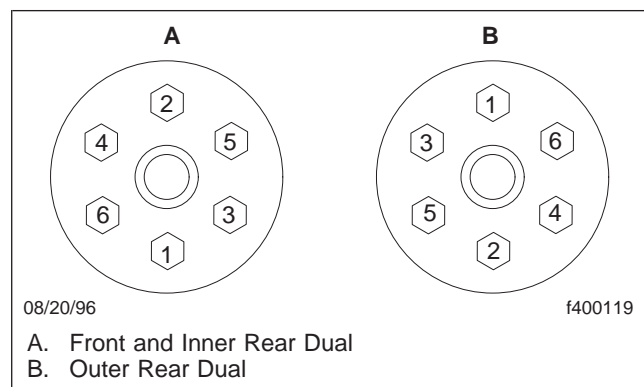
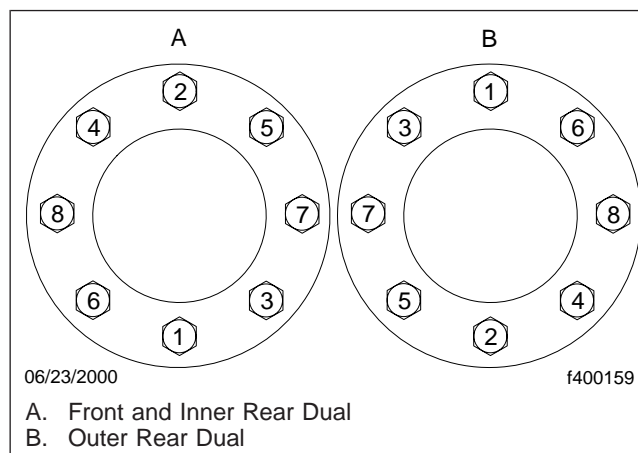
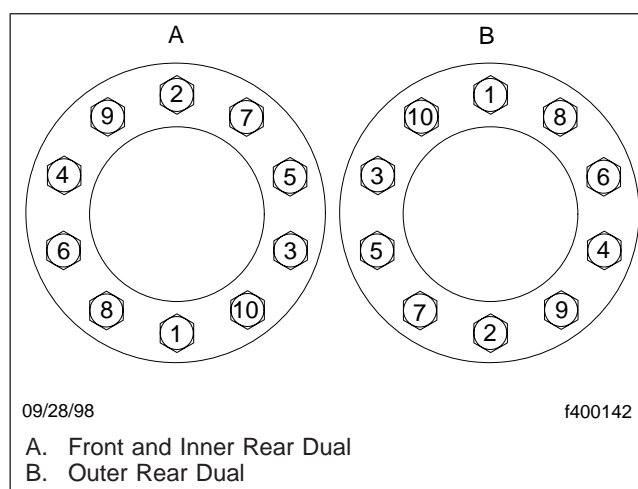

Fig. 1, Wheel Nut Tightening Sequence (6-stud hubs)
Fig. 2, Wheel Nut Tightening Sequence (8-stud hubs)
Fig. 3, Wheel Nut Tightening Sequence (10-stud hubs)
When checking wheel nuts on a dual disc assembly, remove one outer nut at a time, tighten the inner nut, then reinstall the outer nut. Repeat this procedure for all of the inner wheel nuts in the sequence shown in Fig. 1, Fig. 2, or Fig. 3. Then, tighten all of the outer wheel nuts in the same sequence.
- On 6-stud, stud-pilot hubs, tighten the wheel nuts 450 to 500 lbf-ft (610 to 678 N-m). See Fig. 1 for the tightening sequence.
- On 8-stud or 10-stud, hub-pilot hubs with 20-mm studs, tighten the wheel nuts 280 to 310 lbf-ft (380 to 420 N-m). See Fig. 2 or Fig. 3 for the tightening sequence.
- On 8-stud or 10-stud, hub-pilot hubs with 22-mm studs, tighten the wheel nuts 450 to 500 lbf-ft (610 to 678 N-m). See Fig. 2 or Fig. 3 for the tightening sequence.